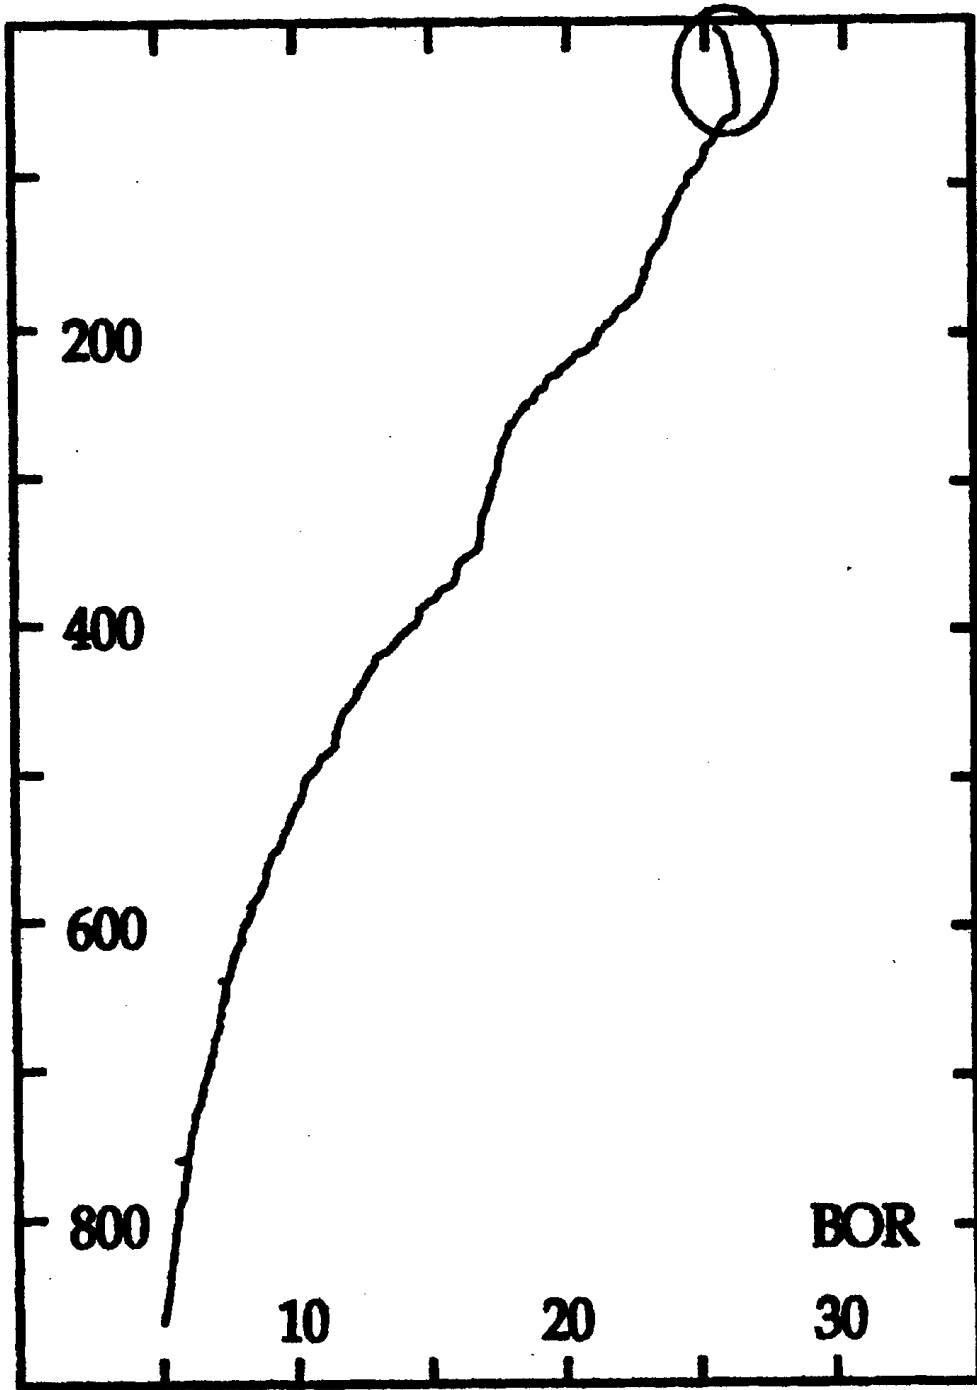

Figure 8a. Bowed Mixed Layer Reject (BOR)
Usually, under strong wind or unusual oceanographic conditions we will try re-dropping two, sometimes three XBT probes to collect a satisfactory observation. If failure continues then cease operations until conditions improve. See Figures 8a through 8l for examples of wire stretch or leakage.
- Fig. 8a:** The BOR flag is used if an unrealistic inversion (warming of >0.2 C in a region where inversions have not previously been observed) is detected in the mixed layer.